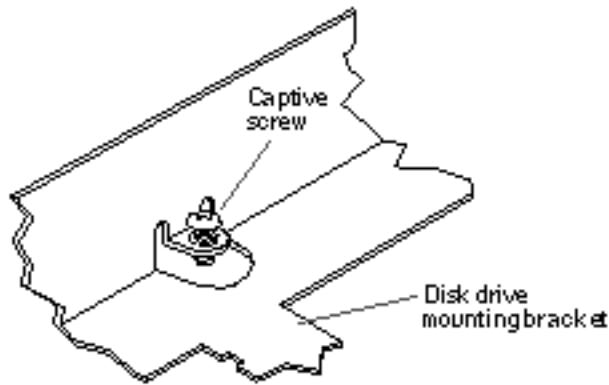
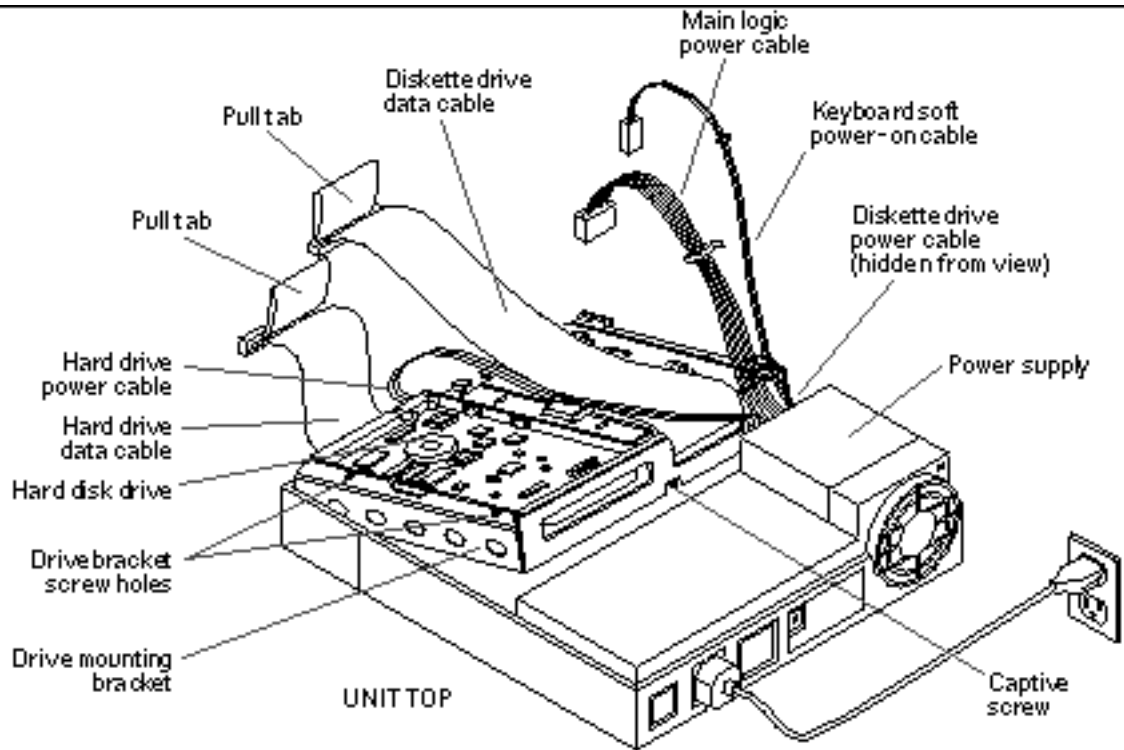
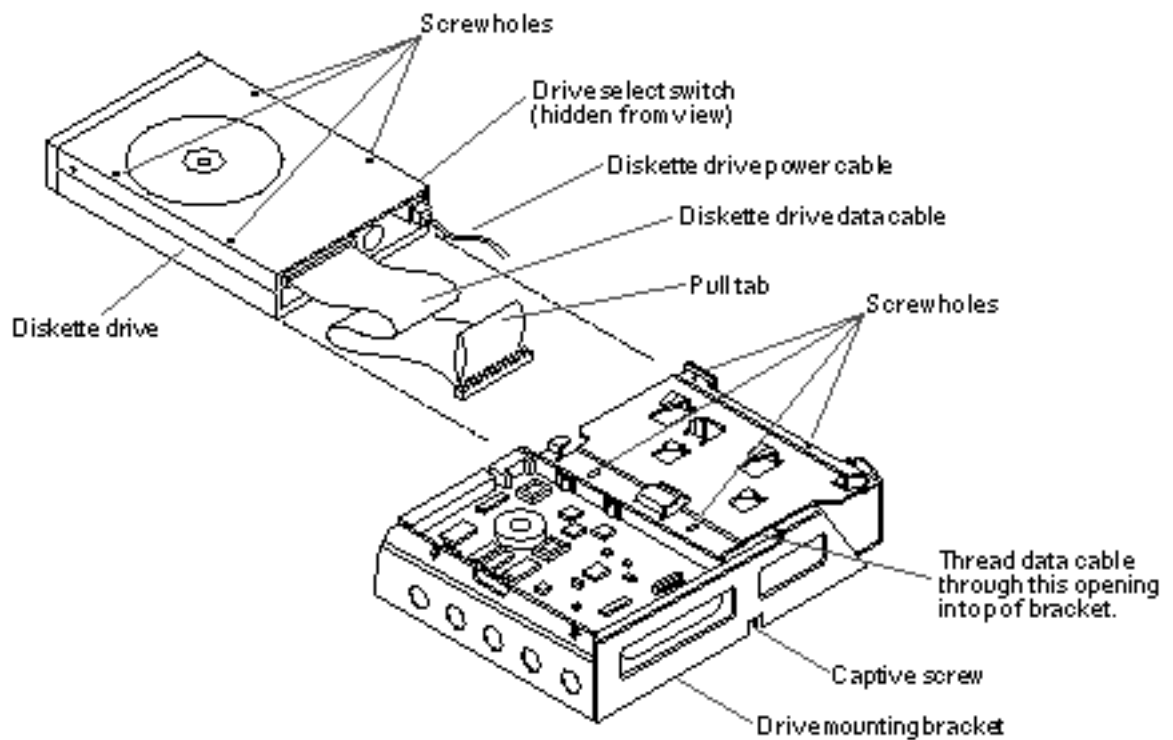

Figure 9-14 Detail of Disk Drive Mounting Bracket
Figure 9-15 Replacing the Disk Drive Mounting Bracket
Figure 9-16 Disk Drive Mounting Bracket
The disk drive bracket resides in the top part of the system unit in front of the power supply (see Figure 9-13). It houses both the diskette drive and the hard disk drive. The hard drive may be removed independently of the disk drive mounting bracket, but you must remove the disk drive bracket before removing the diskette drive or power supply. Refer to Figure 9-12 through Figure 9-15 for the location of the disk drive mounting bracket and the captive screw that secures it to the system.
See Figure 9-13 and Figure 9-14 for the screw's location.
Before setting the disk drive bracket flat in the unit top, connect the power cable to the diskette drive (if present) and the data cable to the hard drive (see Figure 9-15 and Figure 9-16).
Tilt the disk drive bracket toward the front of the unit. Gently lower the bracket into position in front of the power supply (see Figure 9-15).
**4. Reconnect the cables (see Figure 9-15).**
- c. Connect the hard disk data cable and the diskette drive data cable (if present) to their respective connectors on the main logic board (see Figure 9-15).
The diskette drive is in the unit top at the front right side (see Figure 9-12). A 34-pin data cable and a 4-pin power cable connect to the rear of the drive. Four Phillips-head screws attach the diskette drive to the mounting bracket. The drive and the mounting bracket (described previously) are secured to the chassis by a single captive Phillips-head screw at the center rear of the bracket. See Figure 9-14 and Figure 9-16.
## 2. Remove the four Phillips-head screws holding the diskette drive to the disk drive mounting bracket (see Figure 9-16).
Slide the diskette drive out of the bracket as shown in Figure 9-16 and place it on an antistatic mat.
Make sure the switch position matches that of the defective drive. See Figure 9-16 for the switch location.
- 3. Connect the data cable to the replacement drive (see Figure 9-16).**
- 4. Install the diskette drive (see Figure 9-16).**